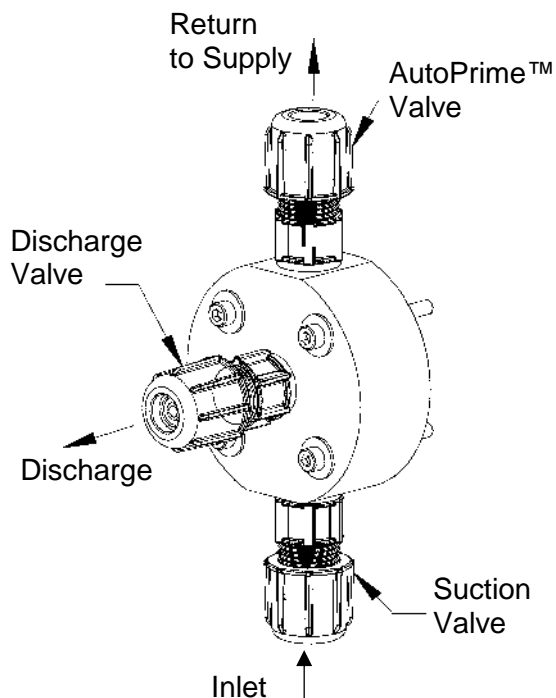

FIGURE 3
Please note: The chemical discharges through the discharge valve which is mounted to the front of the AUTOPRIMETM liquid end, as seen in Figure 3.
1. Connect pressure relief tubing to the pressure relief port (Figure 3). Route tubing to the solution tank. This tubing must not be submerged in the solution.